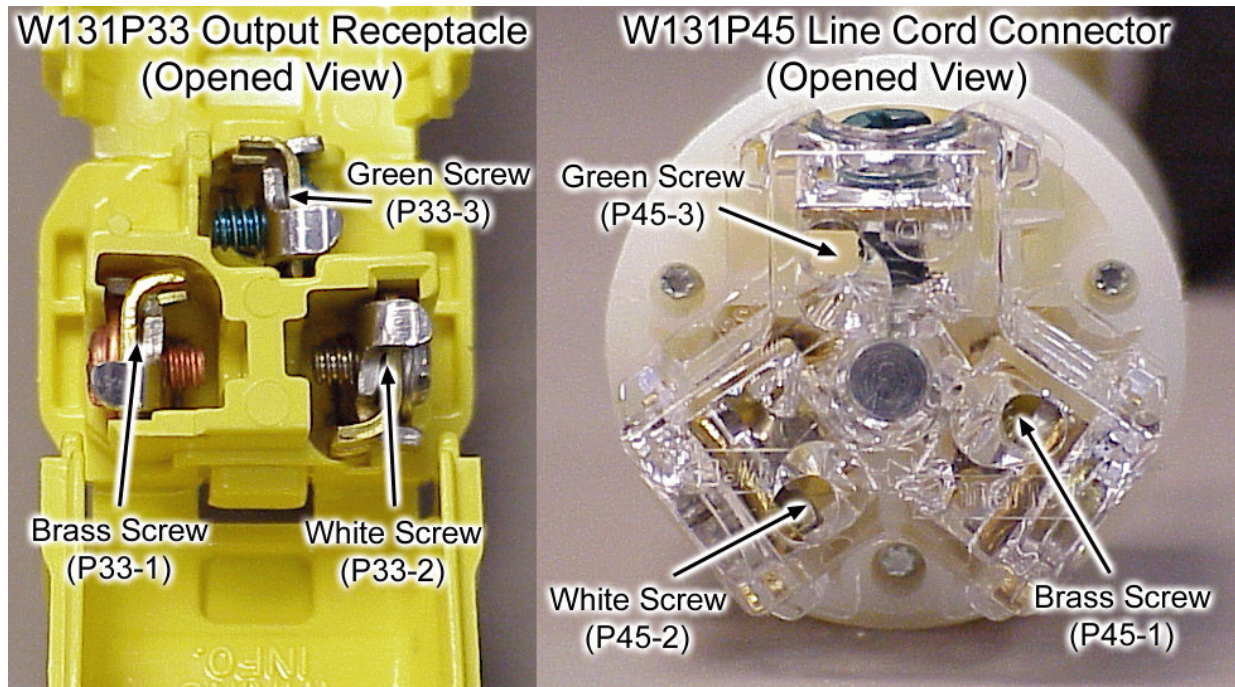

Figure 4 W131P33 and W131P45 Wiring Connections
15. In wire bundle W131, remove the marker and termination from the wire labeled A1A6-BLK and relabel as P45-1/A1A9XK3-2. Remove contact terminations from the wires labeled P33-2/A1A9XK3-6 and P33-1/A1A9XK3-5. Connect these wires and the wires from step 8 to an output receptacle and line cord connector. Refer to figure 4.